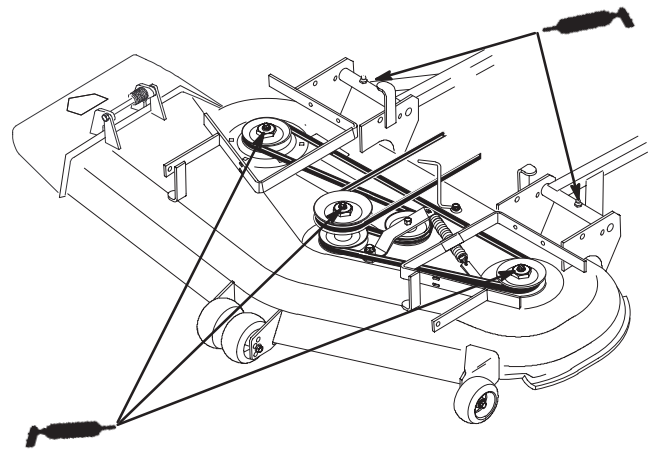

Figure 39
2. Grease the fittings on the three spindle bearings until grease comes out lower seals (Fig. 39).
3. Grease the fittings on the push arms (Fig. 39).